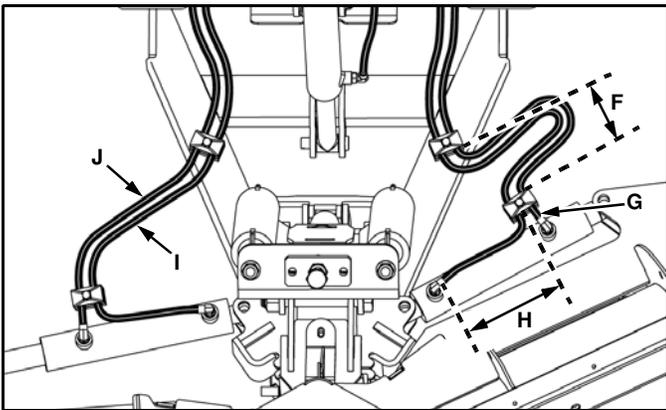

Figure 1-18
14. Adjust position of hose clamps as follows: (See Figure 1-18).